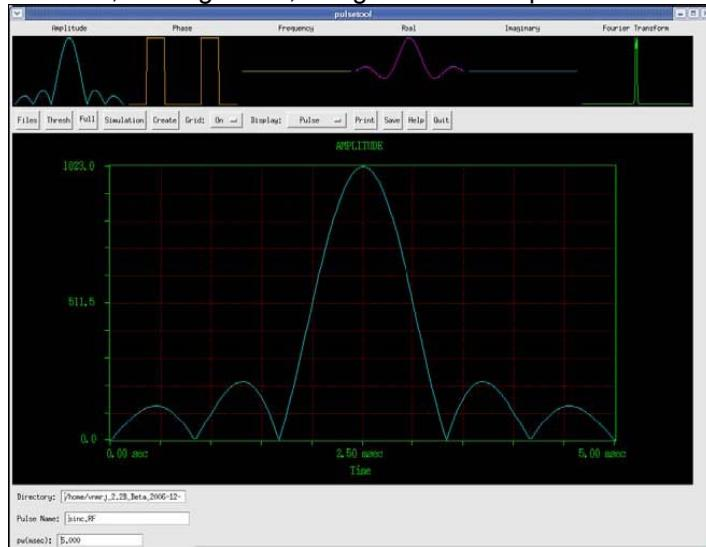

Figure 93 Pulsetool Spin Simulation Window
3. Start **Pulsetool**, see Figure 93, using one of these procedures: